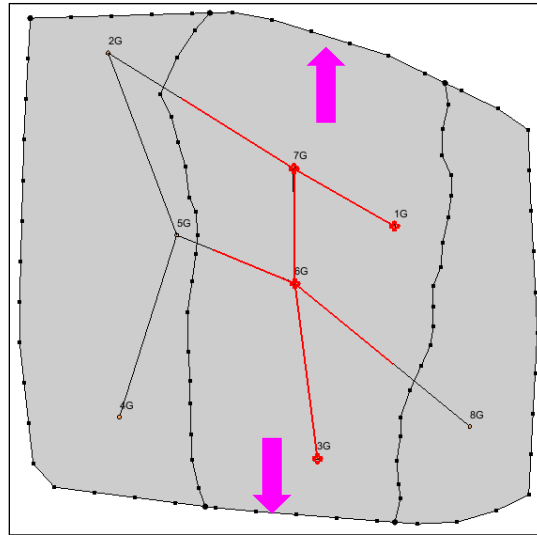

Figure 6 Outside-boundary arcs
1. Using the **Select Arcs**  tool, hold down the *Shift* key and select the two arcs identified by the arrows shown in Figure 6.